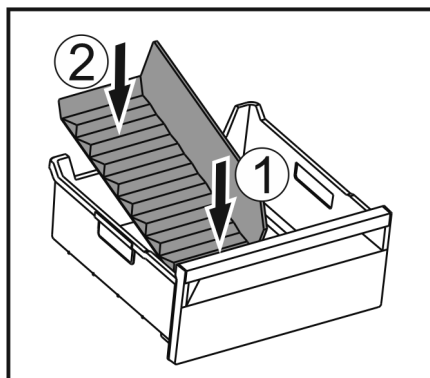

Fig. 113
- Insert the front part of the ice compartment divider. Fig. 113 (1)
- Lower the rear part of the ice compartment divider to the drawer bottom. Fig. 113 (2)